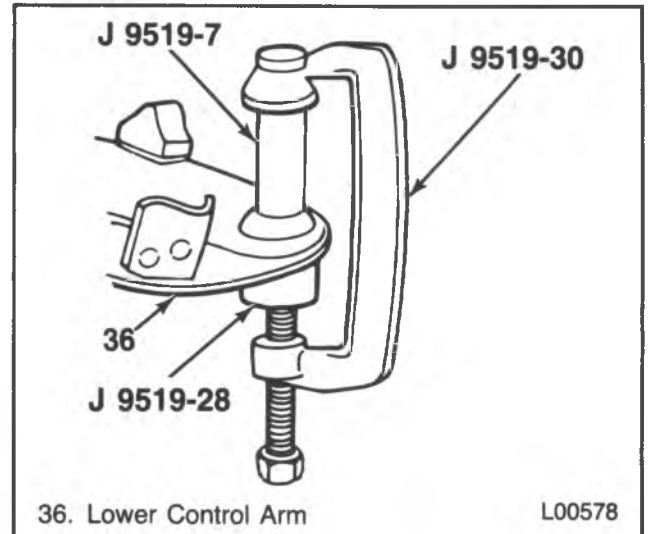

Figure 25 — Removing the Lower Ball Joint
- Extend J 23742 until the lower ball joint (37) breaks free from the steering knuckle (31).
- Remove the nut (35) and J 23742.
4. Hub/rotor (81) and the knuckle assembly off the lower ball joint (37).
- Install J 21474-13, J 9519-7, J 9519-28 and J 9519-30 (figure 25).
5. Ball joint (37) from the lower control arm (36).
- Install J 21474-13, J 9519-22, J 9519-16 and J 9519-30 (figure 25).
- Remove the tools and the ball joint (37).